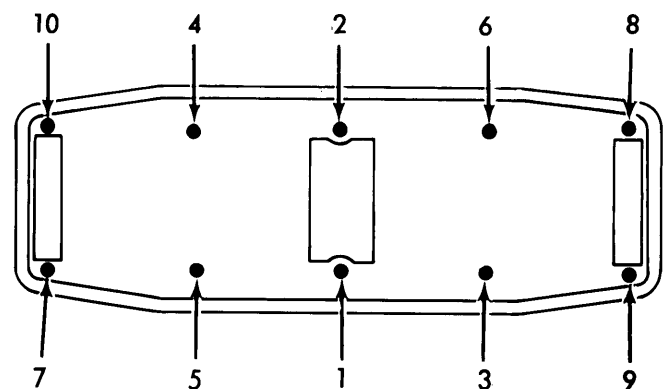

Fig. 1 Cylinder Head Tightening Sequence
3) Loosen timing belt adjusting and pivot bolt, then remove camshaft pulley bolt and remove pulley. Take off fuel pump and remove distributor. Remove oil pump gear holder and pump gear and shaft. Loosen bolts in reverse of tightening sequence (See Fig. 1), a little at a time and lift off cylinder head.
Installation — To install cylinder head, reverse removal procedure and tighten bolts in sequence shown in Fig. 1.